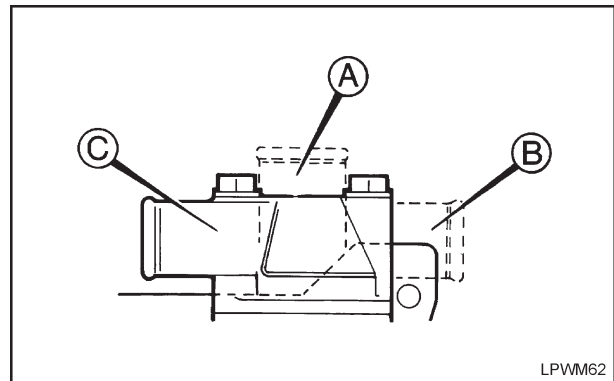

Figure 2.47.1 Thermostat Housing Cover
2. Replace the thermostat into the housing taking care to ensure the jiggle pin (A) moves freely and is located as shown towards the recess. If a jiggle pin is not fitted the round hole must be in this position.
3. Replace the cover in the correct plane, see 'Figure 2.47.1'.